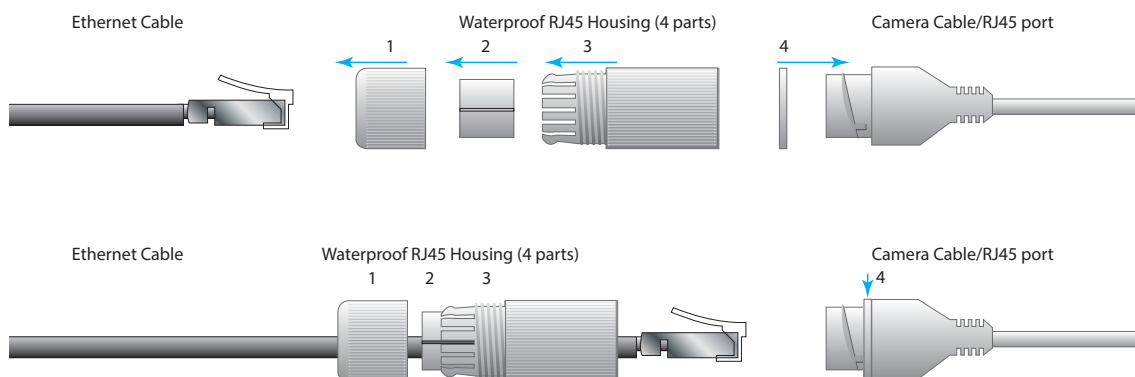

Fig. 2.4
8. Install the four-piece waterproof housing kit that came with the camera. Three pieces (1, 2, and 3) are installed over the Ethernet cable, while the fourth piece, the thin washer (4), is inserted over the RJ45 port of the camera cable, see Fig. 2.4.